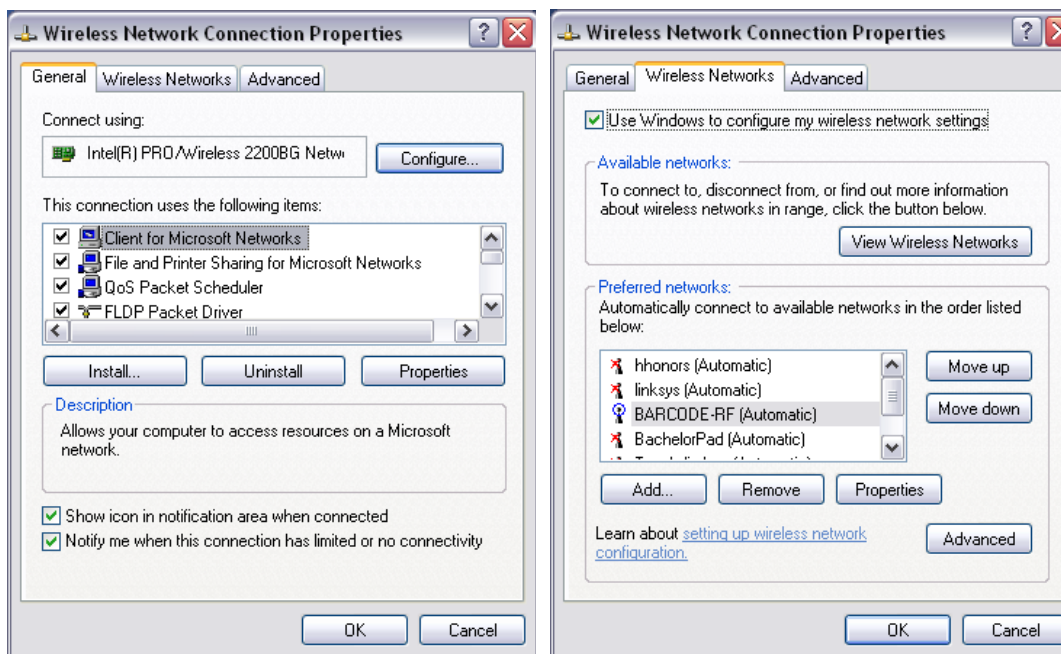

Figure 3-7a/b, Wireless Network Connection Properties
3. Click on the icon mentioned in step 2 to proceed to the Wireless Network Connection Properties screen (Figure 3-7a/b).